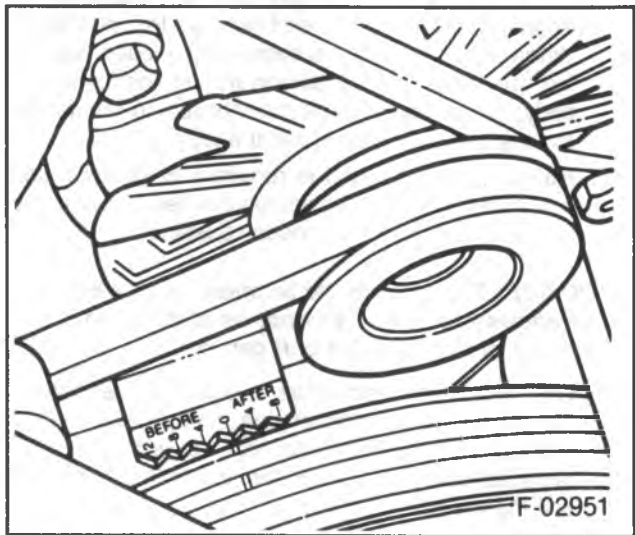

Figure 52 — Timing Mark — Standard Location
5. Start the engine and aim the timing light at the timing mark (figures 52 and 53). The line on the balancer or pulley will line up at the timing mark. If a change is necessary, loosen the distributor hold-down clamp bolt at the base of the distributor. While observing the mark with the timing light, slowly rotate the distributor until the line indicates the correct timing. Tighten the hold-down bolt, and re-check the timing.